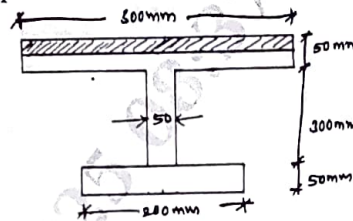

Fig.Q5(b)
b. A cast iron bracket, subjected to bending has a cross section of I-shape with unequal flanges as shown in Fig.Q5(b). If the section is subjected to a shear force of 1600kN, draw the shear stress distribution over the depth of section.